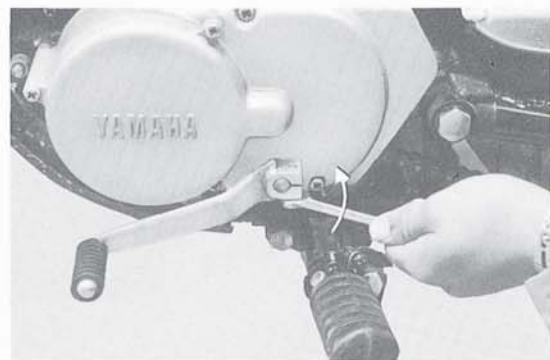

Fig. 4-1-4
- 2) Remove the muffler holding bolts. (Fig. 4-1-4)